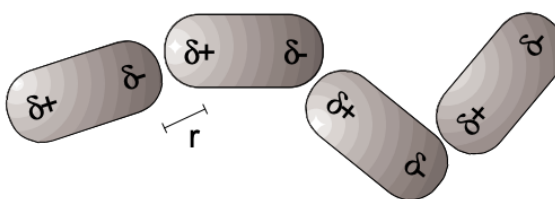

Figure 10
1. Dipole-Dipole Interaction: Molecules with permanent dipoles (such as water, alcohol and other organic compounds with functional groups) exert a net attractive force on each other as a result of varying degrees of alignment of oppositely charged portions of the molecules (fig. 10). For two polar molecules with a dipole moment of (μ) separated by a distance of (r), the energy of attraction can be quantified as: